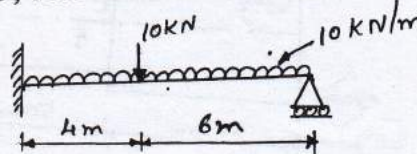

Fig Q9
- 9 For the beam shown in Fig Q9, determine the load vector due to load acting on the beam.